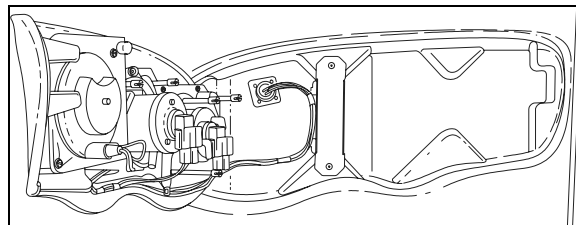

FIGURE 38: OPENING HEADLIGHT ASSEMBLY
- Remove the headlight screw fixing the headlight assembly, then pivot headlight assembly out (Figure 37 and Figure 38).